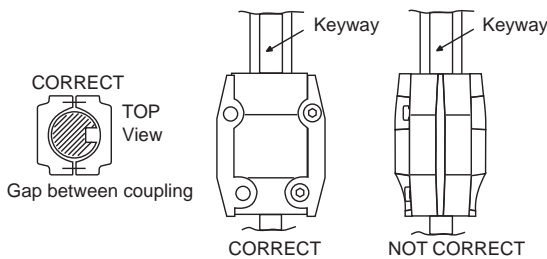

Fig. 16 Coupling adjustment all CR(I)(N)(X)(T)
Insert shaft pin into shaft hole. Reinstall the coupling halves onto shaft and shaft pin. Reinstall the coupling screws and leave loose. Check that the gaps on either side of the coupling are even, and that the motor shaft keyway is centered in the coupling half, as shown in fig. 16.
Insert shaft pin into shaft hole. Insert plastic shaft seal spacer beneath shaft seal collar. Reinstall the coupling halves onto shaft and shaft pin. Reinstall the coupling screws and leave loose. Check that the gaps on either side of the coupling are even and that the motor shaft key way is centered in the coupling half, as shown in fig. 16. Tighten the screws to the correct torque. Remove plastic shaft seal spacer and hang it on inside of coupling guard.
4. Lubricate the coupling screws with an anti-seize and lubricating compound. Tighten the coupling screws (finger tight) while keeping the coupling separation equal on both sides and the motor shaft keyway centered in the coupling half as shown in fig. 16.